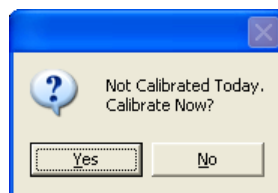
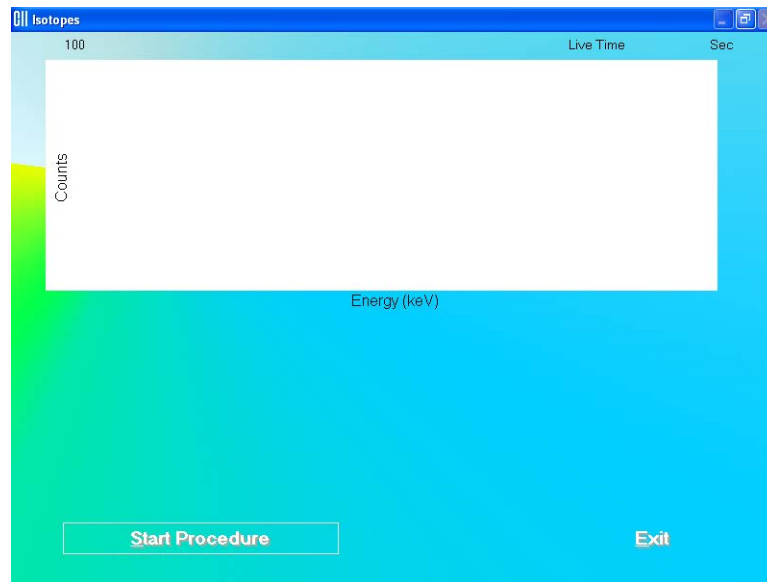

Figure 6-7
Figure 6-8
6. Click the **Next** button or press *Alt+N*. The screen appears as shown in Figure 6-8.
Note: *If calibration has not been performed for the current day for the selected detector, you will be prompted with the screen as shown in Figure 6-7. If calibration is performed now, the program will return to Figure 6-8 after calibration is complete.*
Click the button or press the Y key to end the procedure. The screen appears as shown in Figure 6-8. Click the button to start again or click the button to quit.